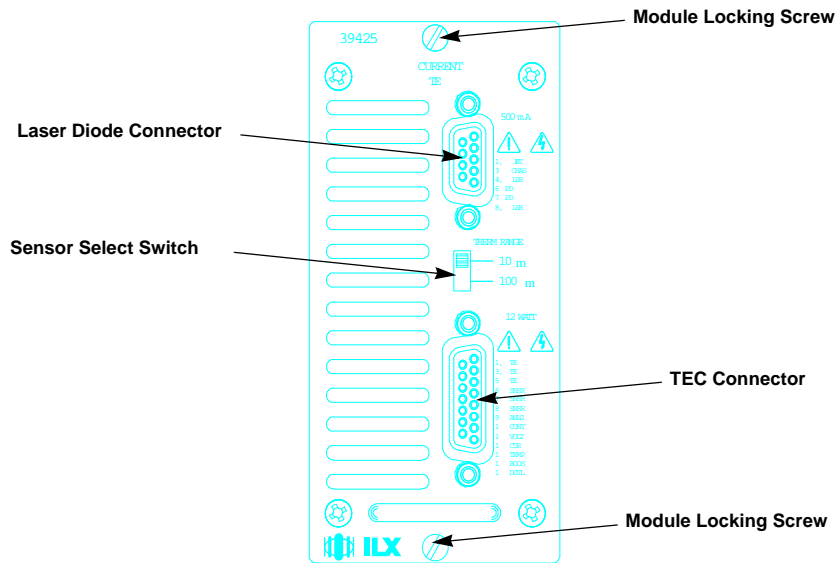

Figure 2.1 LCM-39420 Back Panel
- 2 Place the LCM-39420 module into an open bay on the back of the LDC-3900 and slide the module into place. There are tracks at the top and bottom of the bay which guide the module into place. Push the module into place until the board edge clicks into place with an audible "pop." This indicates that the module is "locked" into place. Fasten module to the mainframe with the Module Locking Screws (see Figure 2.1) to secure the module. It is then ready to be used in the LDC-3900.
- 2 Unfasten the Module Locking Screws (see Figure 2.1) on the LCM-39420 module back panel.
Refer to Figure 2.1 for the following discussion of connections to the LCM-39420.